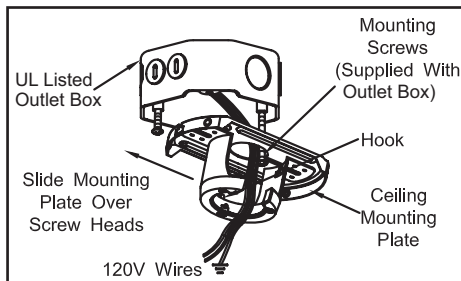

Figure 10
1. Pass the 120-volt supply wires through the center hole in the ceiling mounting plate as shown in Figure 10.
2. Install the ceiling mounting plate on the outlet box, by sliding the mounting plate over the two screws provided with the outlet box (Figure 10). When using close-to-ceiling mounting, it is important that the mounting plate be level. If necessary, use leveling washers (not included) between the mounting plate and the outlet box. Note that the flat side of the mounting plate is toward the outlet box (Figure 10).